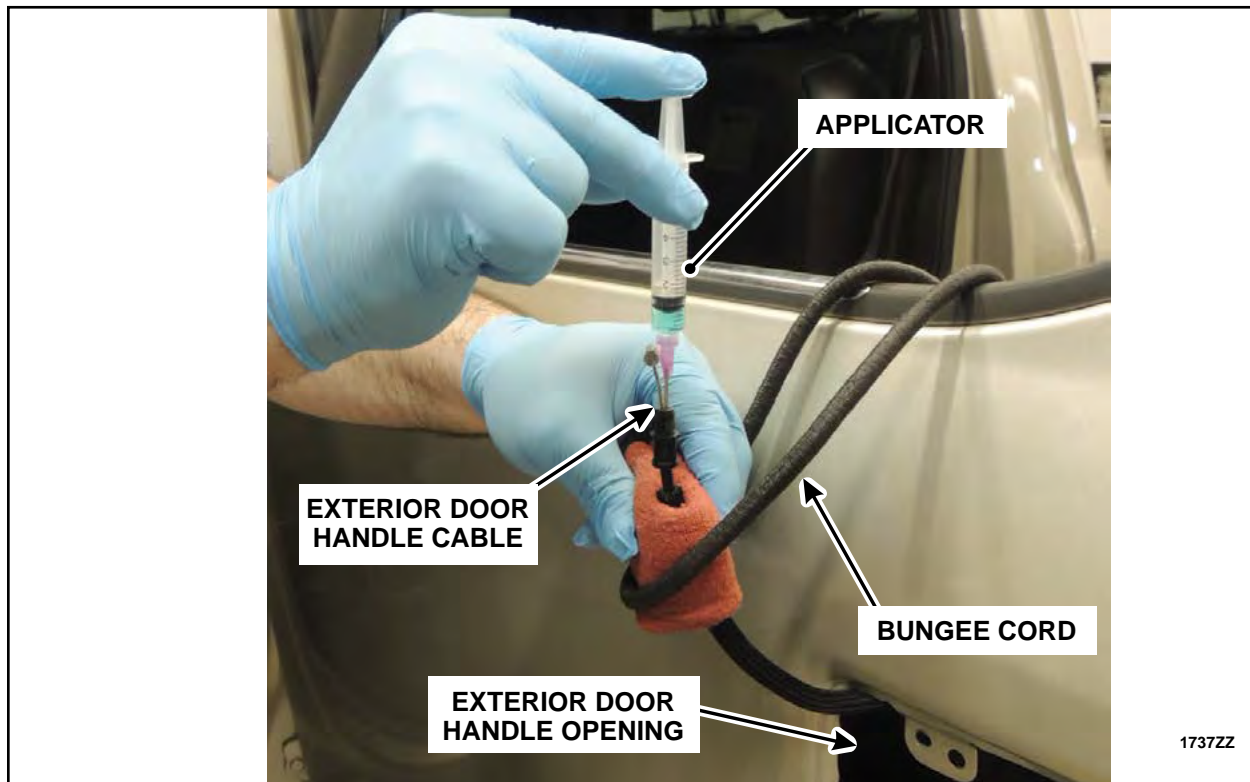

FIGURE 41
14. Towel dry the exterior door handle cable to absorb any residual moisture. Using a bungee cord or other similar device secure the exterior door handle cable to the door in an upward position as shown in Figure 41, to allow the undiluted Motorcraft® Premium Windshield Wash Concentrate (ZC-32-B2) or a 99 percent methyl hydrate (methanol) product time to run down into the cable, until the exterior door handle cable is reinstalled later in this procedure.